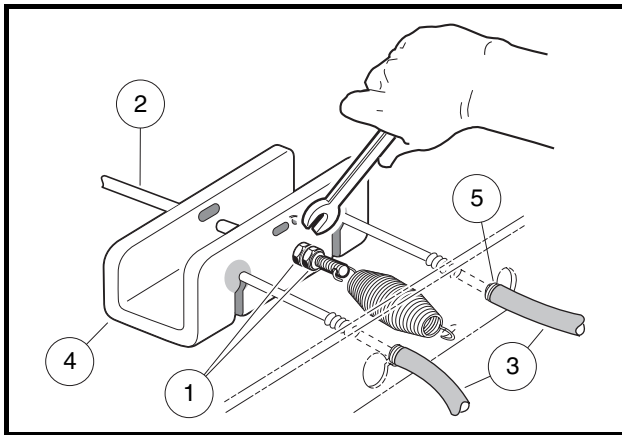

Figure 6-18 Loosen Brake Cables
3. Release the park brake if engaged and loosen equalizer retaining nuts (1) on equalizer rod (2) to slightly loosen the brake cables (3) (**Figure 6-18, Page 6-10**).
4. Rotate the brake cable upward and pull cable end through hole in top of equalizer (4).
5. Remove E-clip from cable at vehicle frame (5) (**Figure 6-18, Page 6-10**). Remove cable from frame.
1. Place the end of the new cable into the equalizer (4) (**Figure 6-18, Page 6-10**). Secure the cable to the vehicle frame with new E-clip. Route cable through hanger in the same manner as before.